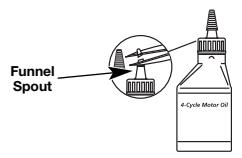

Fig. 4
Your unit is supplied with one 3.04 fluid oz. (90 ml.) bottle of SAE 30 SF, SG, SH oil (Fig. 4).
- Unscrew the top of the bottle of oil and remove the paper seal covering the opening. Replace the top. Next, cut the tip off of the funnel spout (Fig. 4).